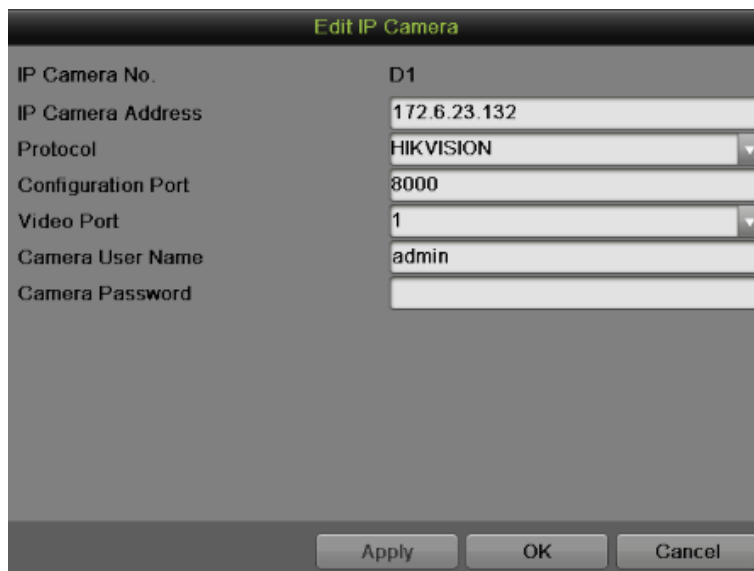

Figure 93 Edit IP Camera
1. Click  in the added camera list to pop up an Edit IP Camera menu, as shown in Figure 93.